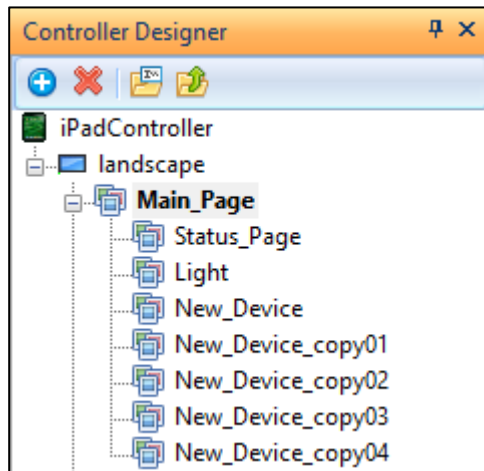

Figure 12 - Create Pages
- After adding the pages, refer to Figure 12. All newly created pages should be on the same layer as “Status\_Page”.